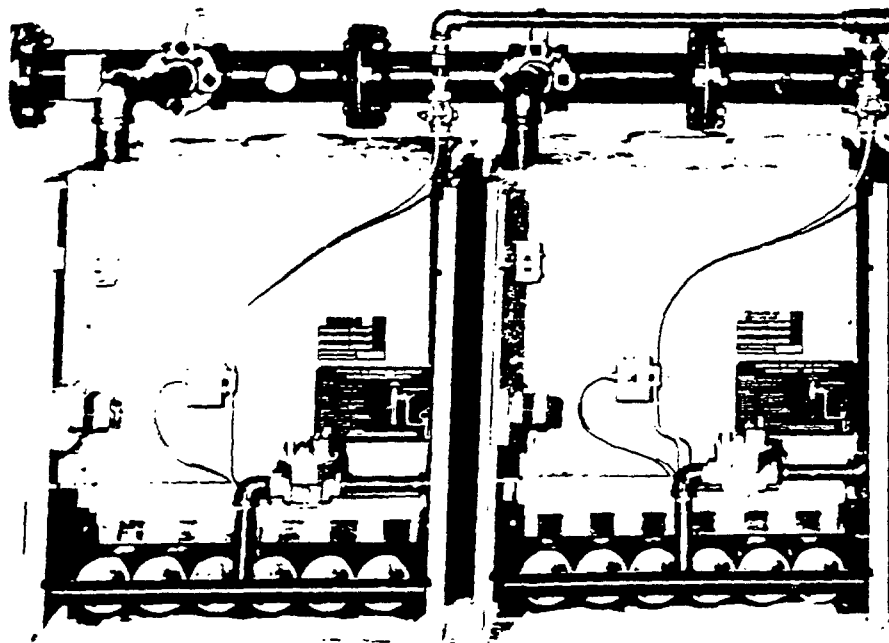

FIG. 14
3. Attach the jacket liner to the side panels with #8 x 3/8" sheet metal screws. LEAVE ALL JACKET SCREWS SLIGHTLY LOOSE UNTIL ENTIRE JACKET IS ASSEMBLED. Drape the loose end of the jacket liner insulation over the canopy (See Figure 14).
1. Install the temperature-pressure gauges and the relief valves (with 3/4" nipple) in the water header (See Figure 14). A full sized discharge pipe from the relief valves to drain is recommended.